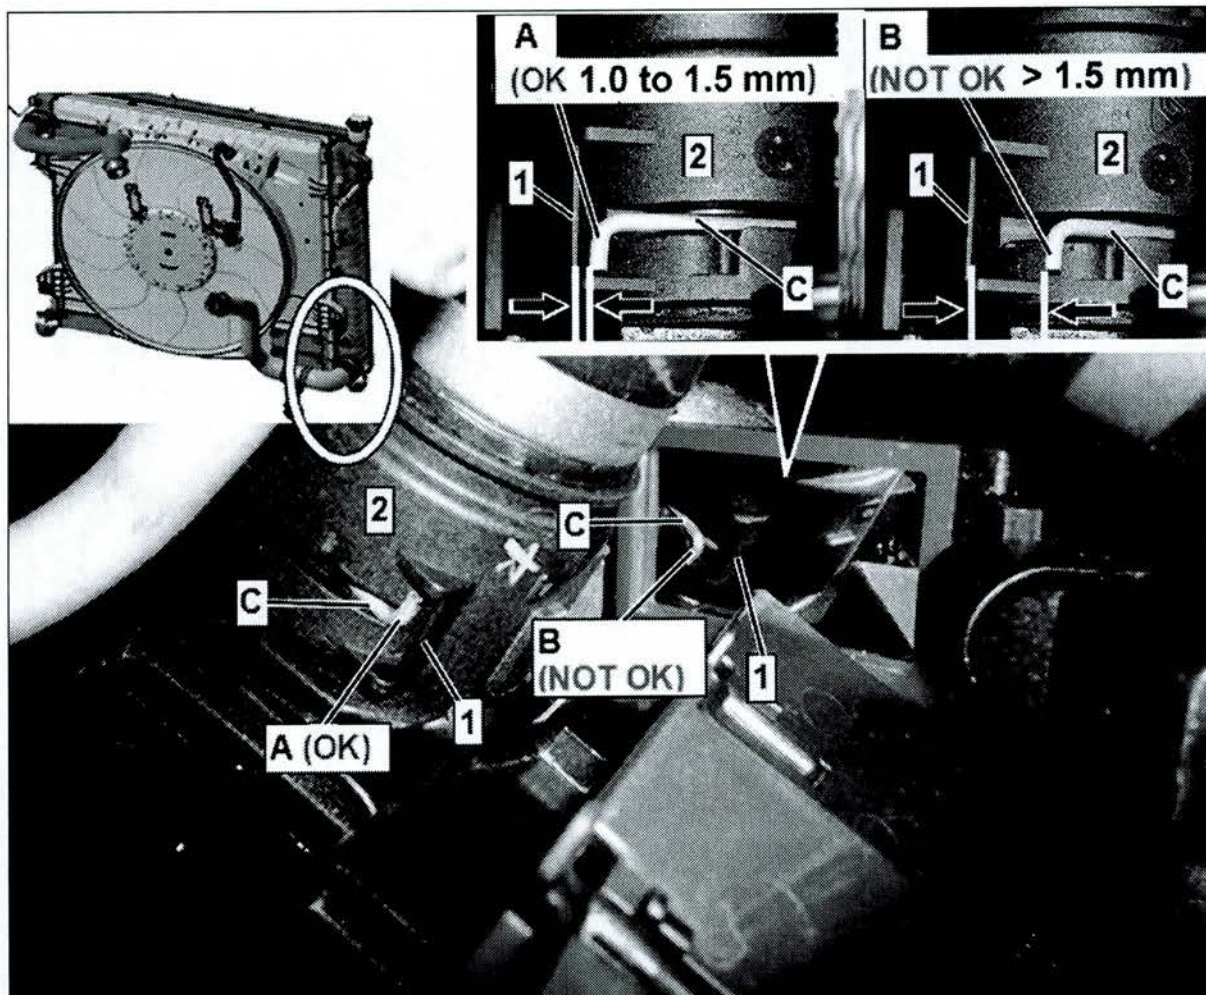
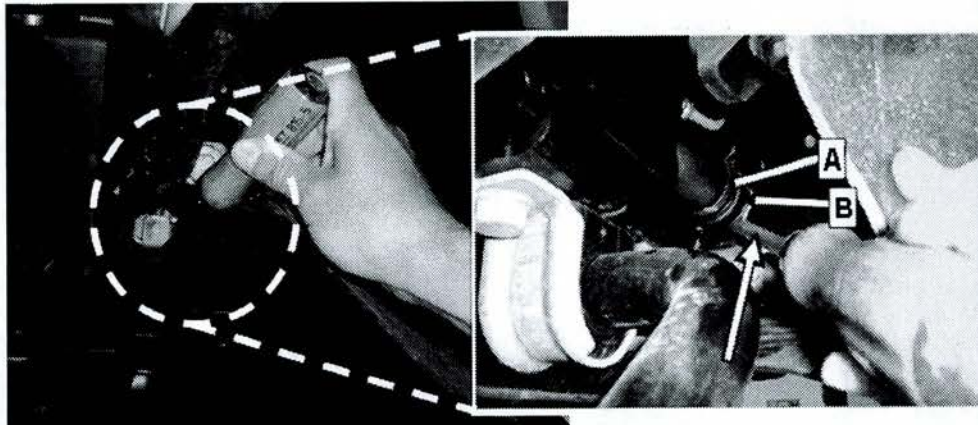

Figure 1
Figure 2 Note: Do Not press on tensioning clamp (B)
- Using a mirror (from above the engine compartment) check whether both ends (A, B, Figure 1) of tensioning clamp (C) on lower radiator hose coupling (2) are correctly engaged:
- If the gap between the protection tab (1) and clamp ends (A, B) is 1.0 to 1.5 mm (max.) (OK): Procedure is complete.
- If the gap between the protection tab (1) and clamp ends (A, B) is **greater than 1.5 mm** (NOT OK): proceed to step 2.
2. Press lower radiator hose coupling (A, Figures 2, 3) correctly onto the lower radiator neck using a flat a blade screwdriver (arrow).
- **DO NOT** press screw driver (arrow) on tensioning clamp (B).
- Both ends (A, B, Figure 1) of the tensioning clamp on the hose coupling must engage correctly. Press again on lower radiator hose coupling (A, Figures 2, 3) with screwdriver (arrow, Figures 2,3) if necessary.